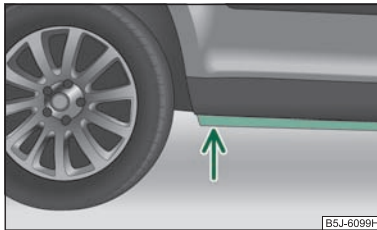

Fig. 136 Crossing bodies of water
- Determine the depth of the water when driving through bodies of water. The water can reach at the maximum the web on the lower sill of the vehicle ⇒ fig. 136.